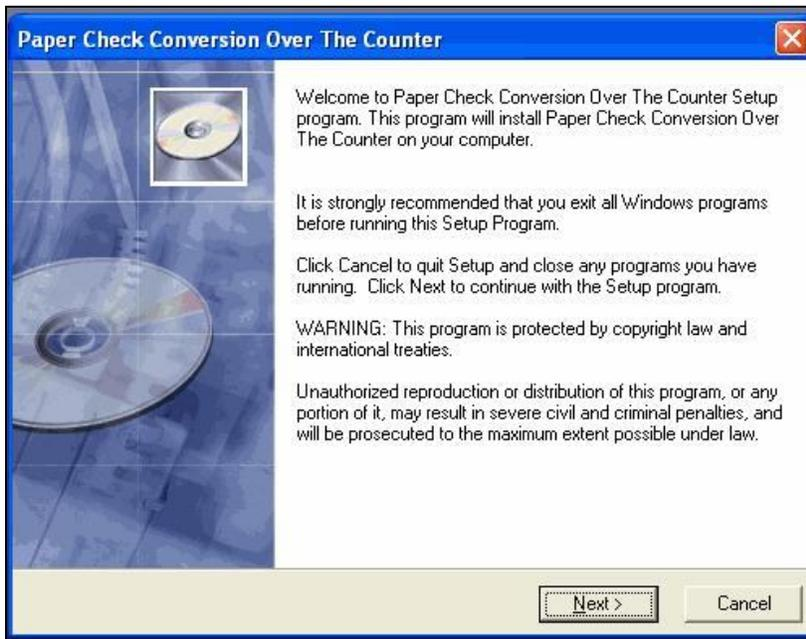

Figure 2.5
9. The 'Paper Check Conversion Over the Counter Welcome' window appears (Figure 2.5). Click '**Next**'.